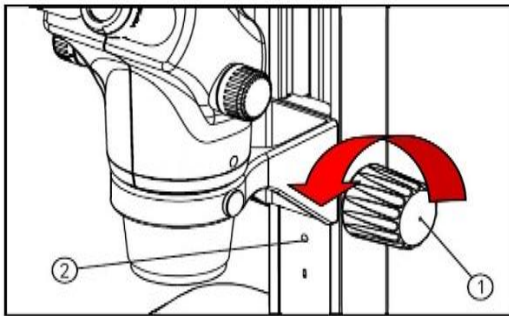

Fig. 9
NOTE: The working distance (the distance between the microscope objective to the top of the specimen) of the microscope is 115mm, the trinocular head bracket/focus mount ⑤ can be mounted onto higher or lower positions according to your needs by removing the clamping bolt ② (Fig. 9 next page) with the Allen wrench provided.
Adjusting the Rotation Tension of the Focus Adjustment Knob (Fig. 9)